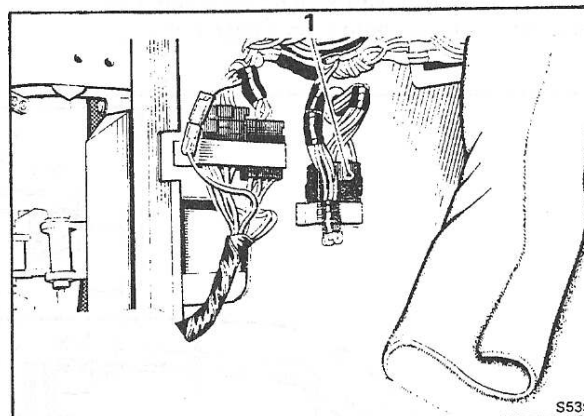

Fig. S1 Position of door loom plug and socket (Camargue)
3. Disconnect the door loom plug(s) and socket(s) (see Fig. S1).